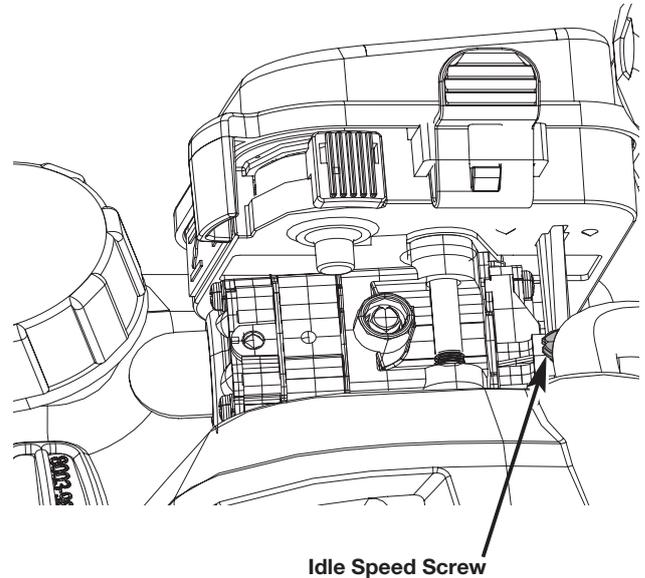

Fig. 13
2. Let the engine idle. If the engine stops, increase the idle speed. Use a small Phillips screwdriver to turn the idle speed screw clockwise, 1/8 of a turn at a time, until the engine idles smoothly (Fig. 13).